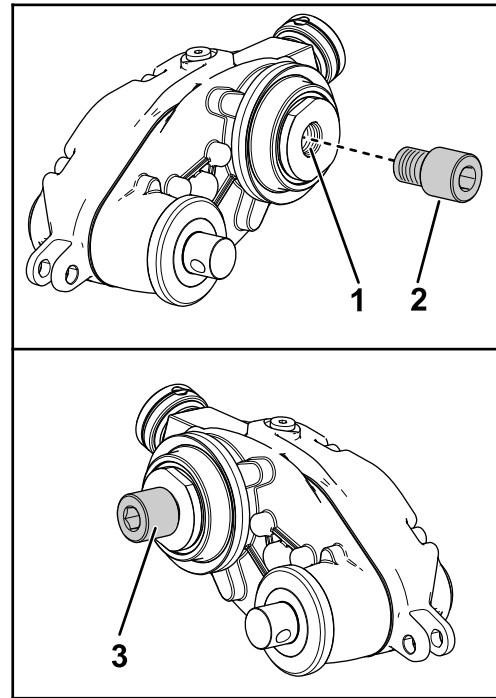

Figure 6
1. Apply medium-strength thread-locking compound (such as Blue Loctite® 243) to the threads on the inside of the drive shaft (Figure 6).
2. Attach the appropriate reel adapter to the groomer shaft (Figure 6) and torque it to 150 to 163 N·m (110 to 120 ft-lb).